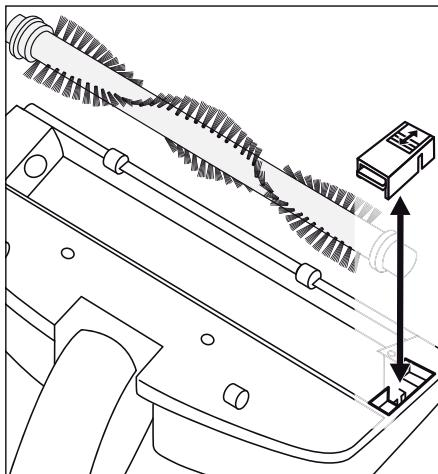

Fig. 4
The rotary brush **⑭** can become covered in residues, such as hair, after a while. To remove this dirt, you can remove the rotary brush **⑭** (Fig. 4).
- 3) Lift out the rotary brush **⑭**.
- 4) To replace the rotary brush **⑭**, first push the broad end onto the drive shaft so that the rotary brush **⑭** hooks into place.
- 5) Then push the other end into the mount so that the rotary brush **⑭** sits straight in the floor nozzle.